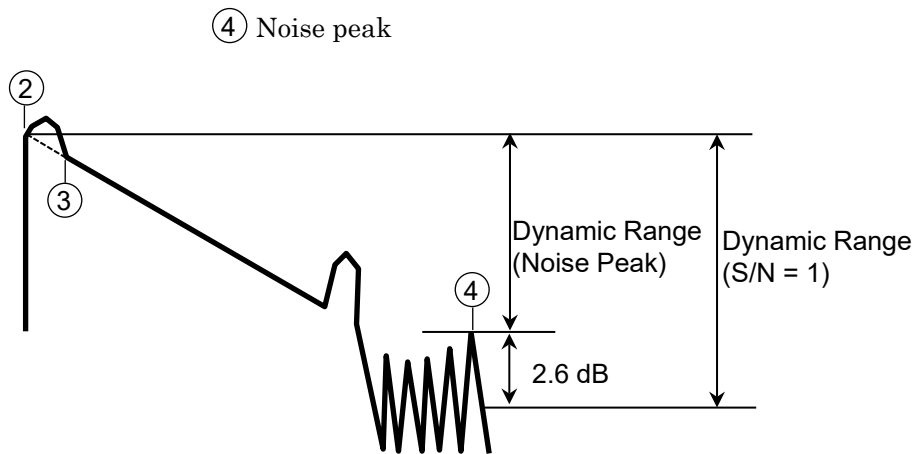

Figure 15.3.3-2 How to Measure Dynamic Range
20. Place the markers on the positions shown in Figure 15.3.3-2.
- ② Extreme left of the trace graph
- ③ Optical connector of the ACCESS Master